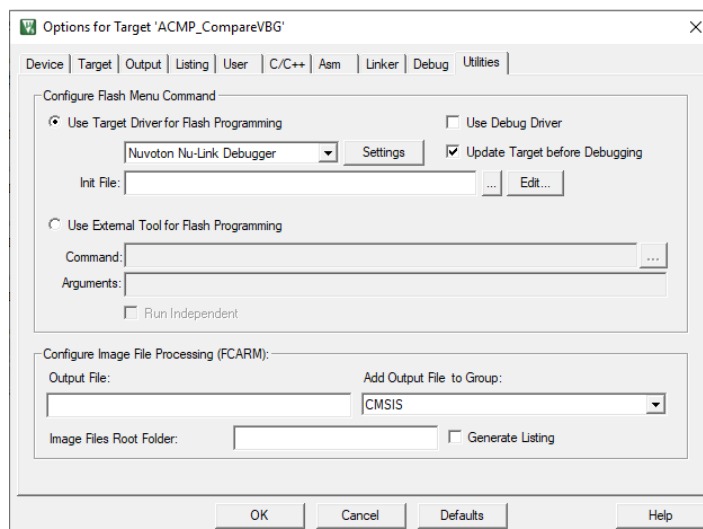

Figure 4-12 Keil MDK Programmer Selection
Step 6: Invoke **Project** → **Options for Target** → **Utilities**, select “**Nuvoton Nu-Link M0 Debugger**” when the **Use Target Driver for Flash Programming** option is enabled, and then select the **Update Target before Debugging** option, as shown in Figure 4-12.